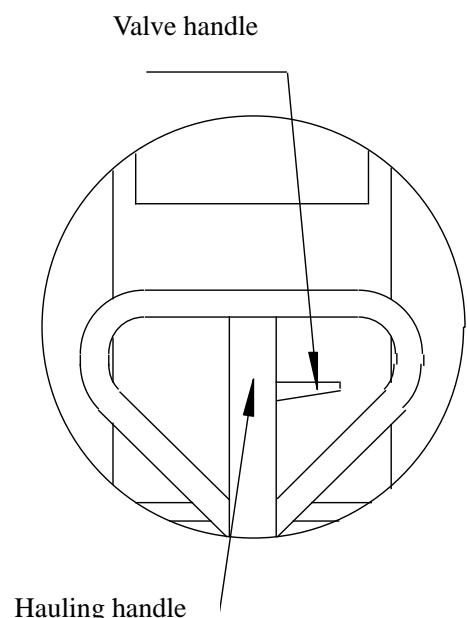

Fig 27 Sketch map of hauling handle
5.1.1 The lifter is possessed of separate traveling components. Shake the hauling handle of the steering rear wheel forwards and backwards to make the vertical post off the ground, then you can move the lifter. On arriving the working site, press the valve handle (see Fig. 27) to retract the wheel, then the vertical post lands on the ground steadily.